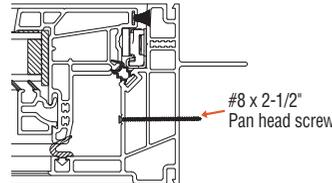

fig. 17
- For Casement:** Open window and using #8 x 2-1/2" Pan head screws fasten the operating casement in two locations on the main frame hinge jamb. (fig. 17 & 18)
- For Awning:** Open the window and place #8 x 2-1/2" Pan head screws 5" down from the inside of the top of the window. (fig. 17 & 19)